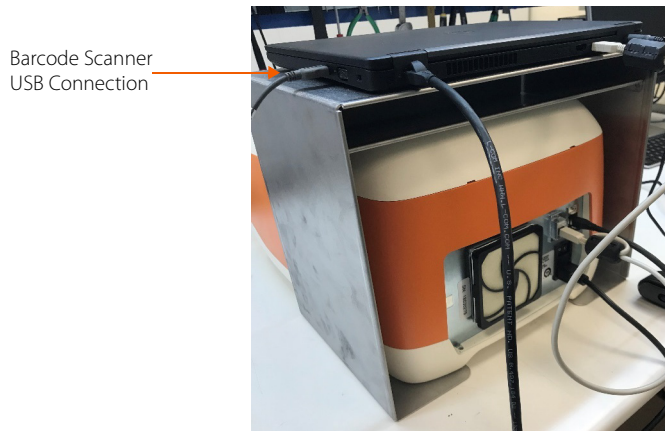

Figure 1-10: Laptop barcode scanner connection.
- **Barcode scanner.** Connect this to any USB port (Figure 1-10). Listen for the confirming “beep, beep” when connected.